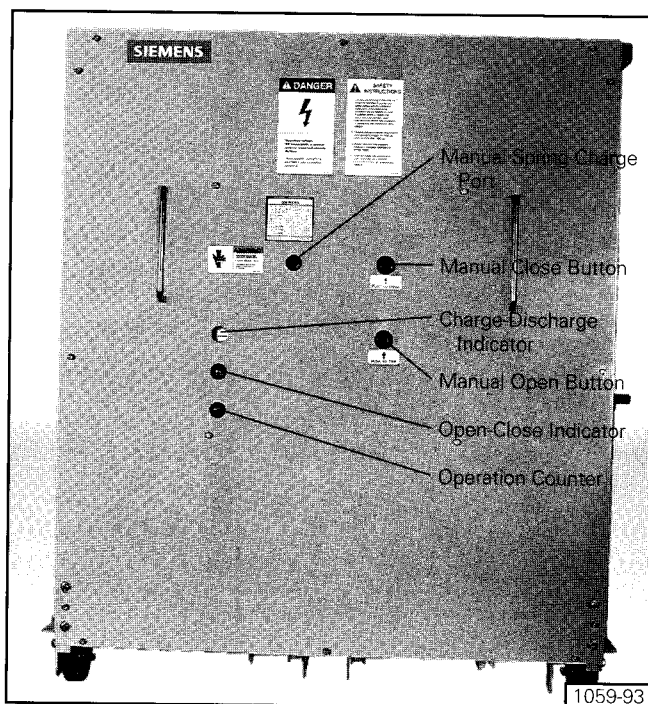

Figure 1. Front Panel Controls of Type 38-3AF Circuit Breaker
Spring Discharge Check (Figure 1) - Perform the Spring Discharge Check before removing the circuit breaker from the pallet or removing it from the switchgear.
5. Use the Close and Trip controls (**Figure 1**) to first Close and then Open the circuit breaker contacts. Verify contact positions visually by observing the Open/Closed indicator on the circuit breaker.